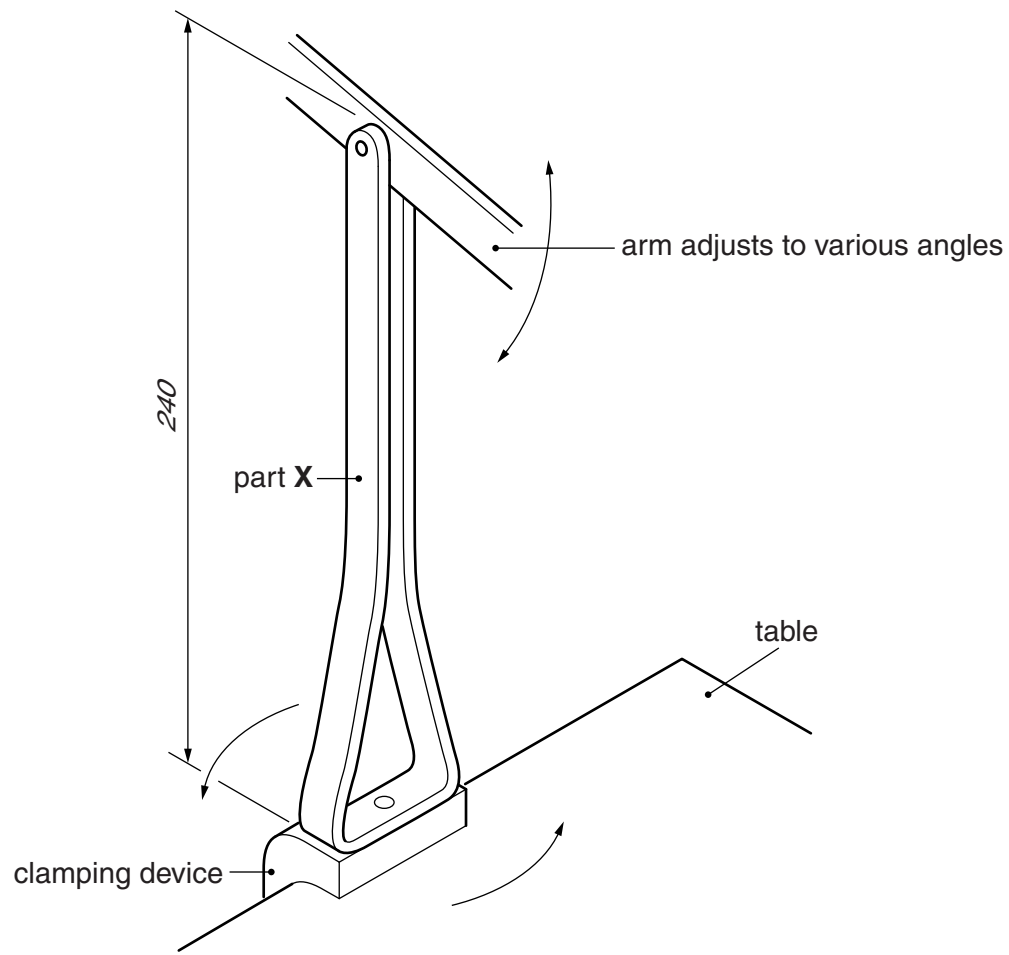

Fig. 7
- 7 Fig. 7 shows an incomplete idea for an adjustable lamp.
- (c) Using notes and sketches, **develop** a design which allows the lamp to be clamped to a table. The design must include a way of joining the clamping device to part X. Part X must be able to rotate as shown in Fig. 7. [20]